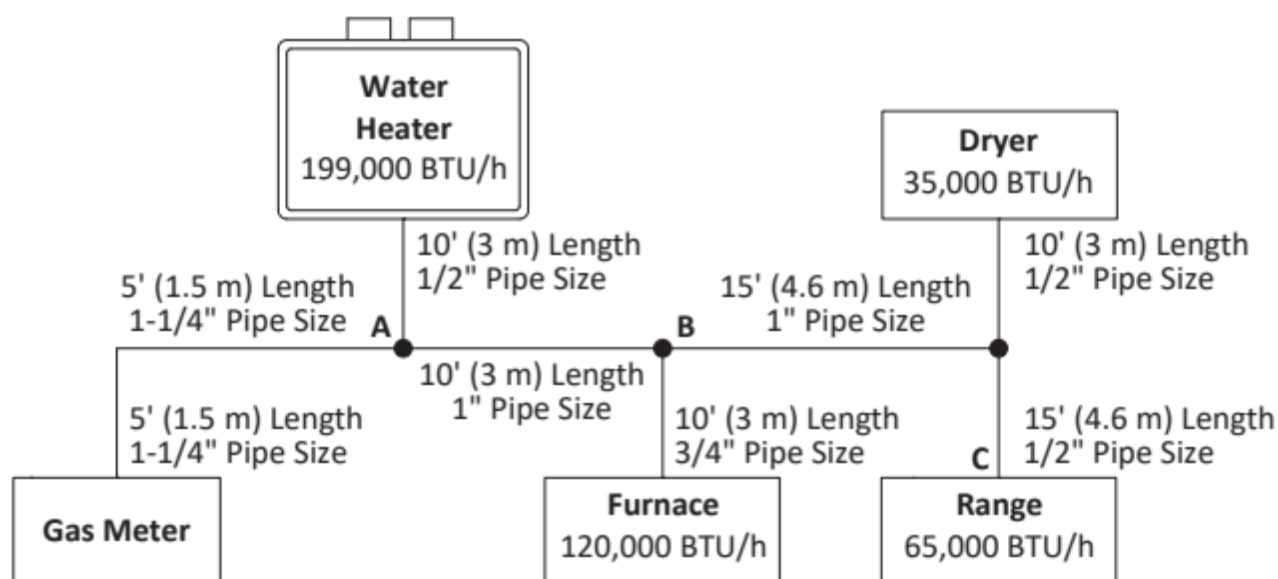

Figure 35 - Pipe Sizing Diagram
Based on Energy Content of 1,000 BTU/Cubic feet (Figure 35):
**1** Divide each appliance's BTU/h requirement by 1,000 BTU/ft3 to get the appliance's ft3/h requirement. Take into account the distance the appliance is from the gas meter. Use Table 14 and Figure 35 below to properly size the line.